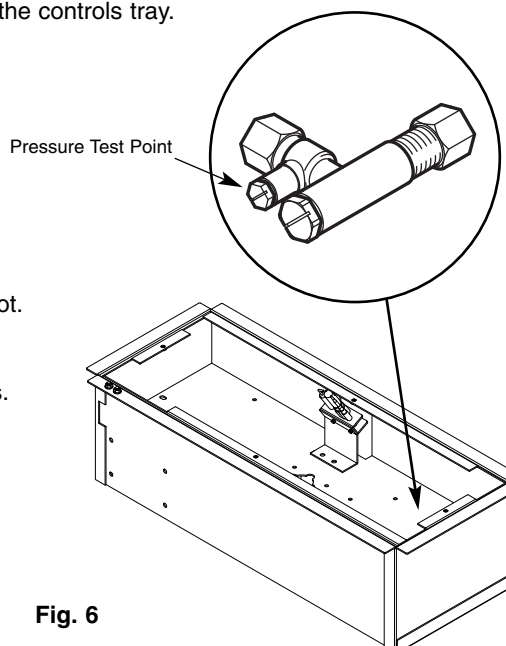

Fig. 6
1. Unscrew the pressure test point sealing screw (Fig. 6) and fit a manometer.